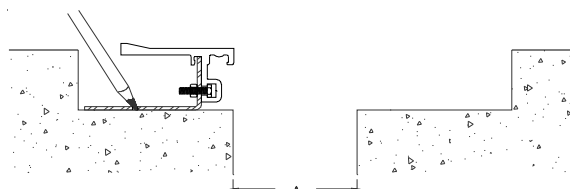

Figure 3
**STEP 6.** Select a base member assembly, and place it into the blockout in the installed position. Ensure that the base member assembly is level, flush with the finished floor, and plumb with the edge of the joint. Using the base member assembly as a template, mark the locations for the anchors on the concrete (see Figure 3).